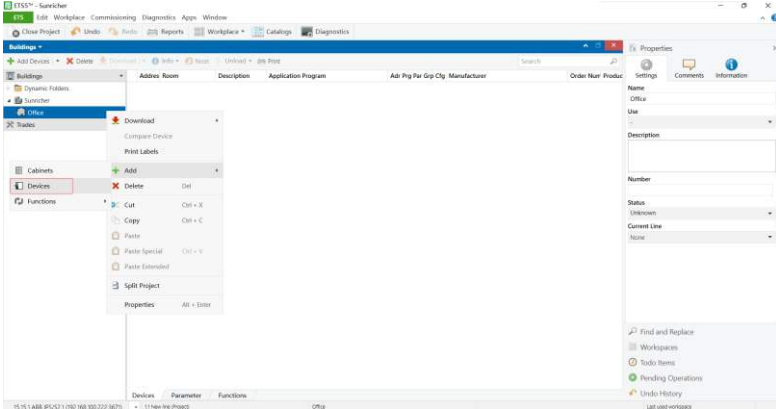

Figure 22
2.8. Right click on the created room name on the left, then click on “Add” and “Devices” to add a device to the room as shown in Figure 22.